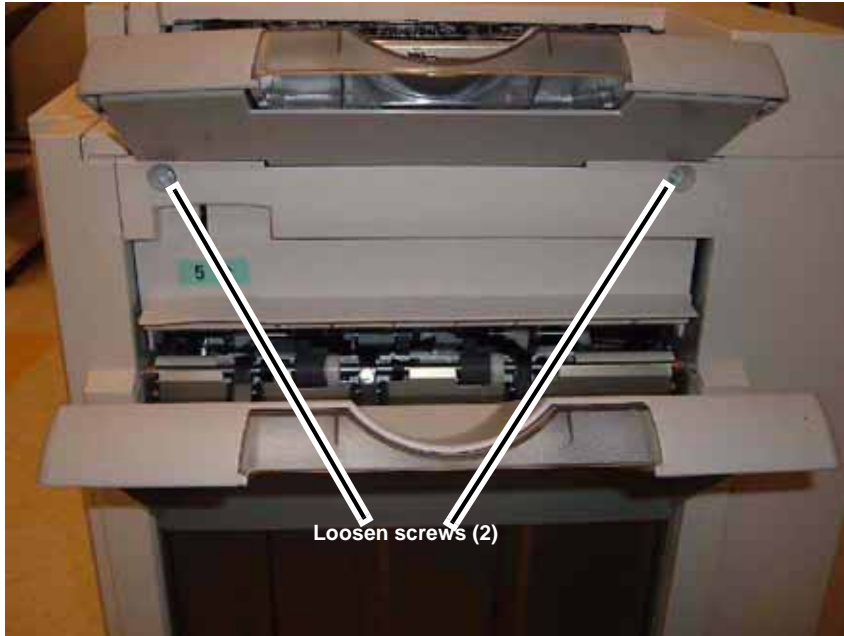

Figure 1 Removing the Top Tray
1. Remove the Top Tray (Figure 1).